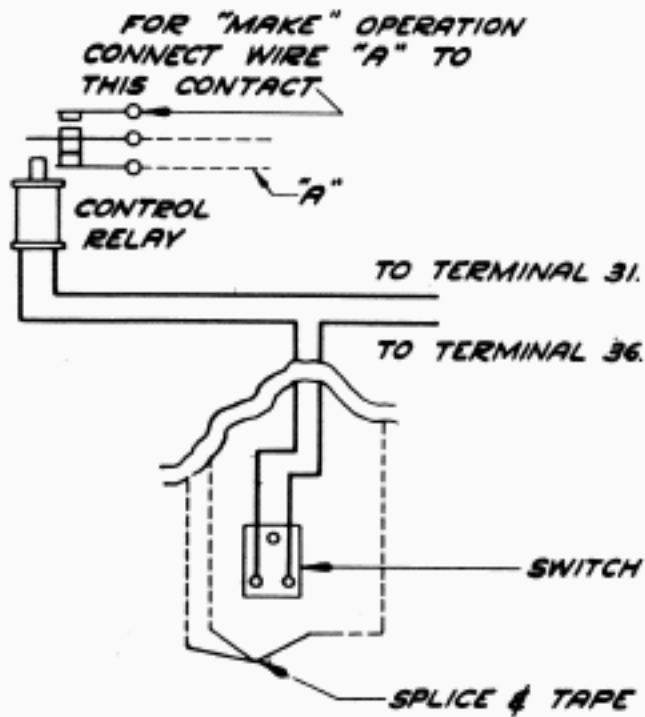

FIGURE 3
1. In order to render the motor control relay operative, wiring changes at the switch and the control relay are necessary, as shown in Figure 3. For "break" operation, invert the power switch to make "on" and "off" designations on cover agree with the operation of the switch. Wiring shown is for "break" operation.